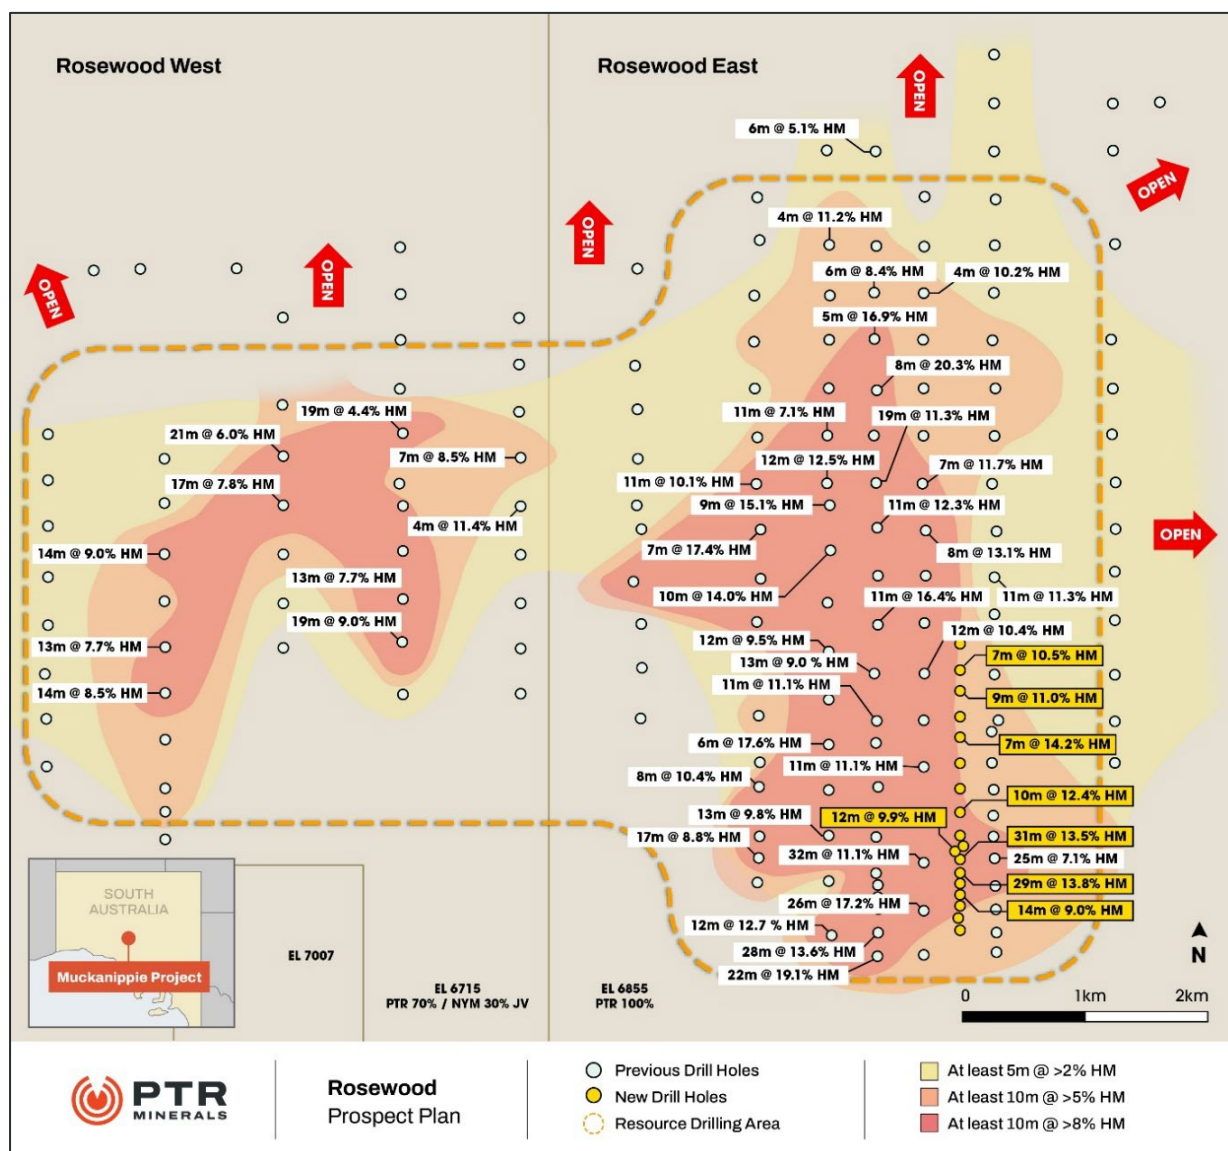

Figure 1: Rosewood Project Area – Location of historical² and new drill results
Initial batch assay results from the current drilling have been received for the first 17 drill holes. Holes were drilled at 100 metre or 200 metre spacing along a single 2.5 kilometre drill traverse in the Rosewood East area (Figure 1). Consistent high-grade heavy mineral (HM) mineralisation, over thick vertical intervals was encountered and remains open along trend (Figure 1). They include some of the best results to date with intercepts presented in Table 1.